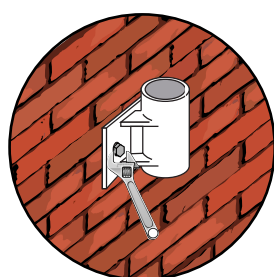

Fig 1.
1. Check contents. Position bottom bracket ensuring that it is vertical, drill holes and bolt to the wall (Fig 1).